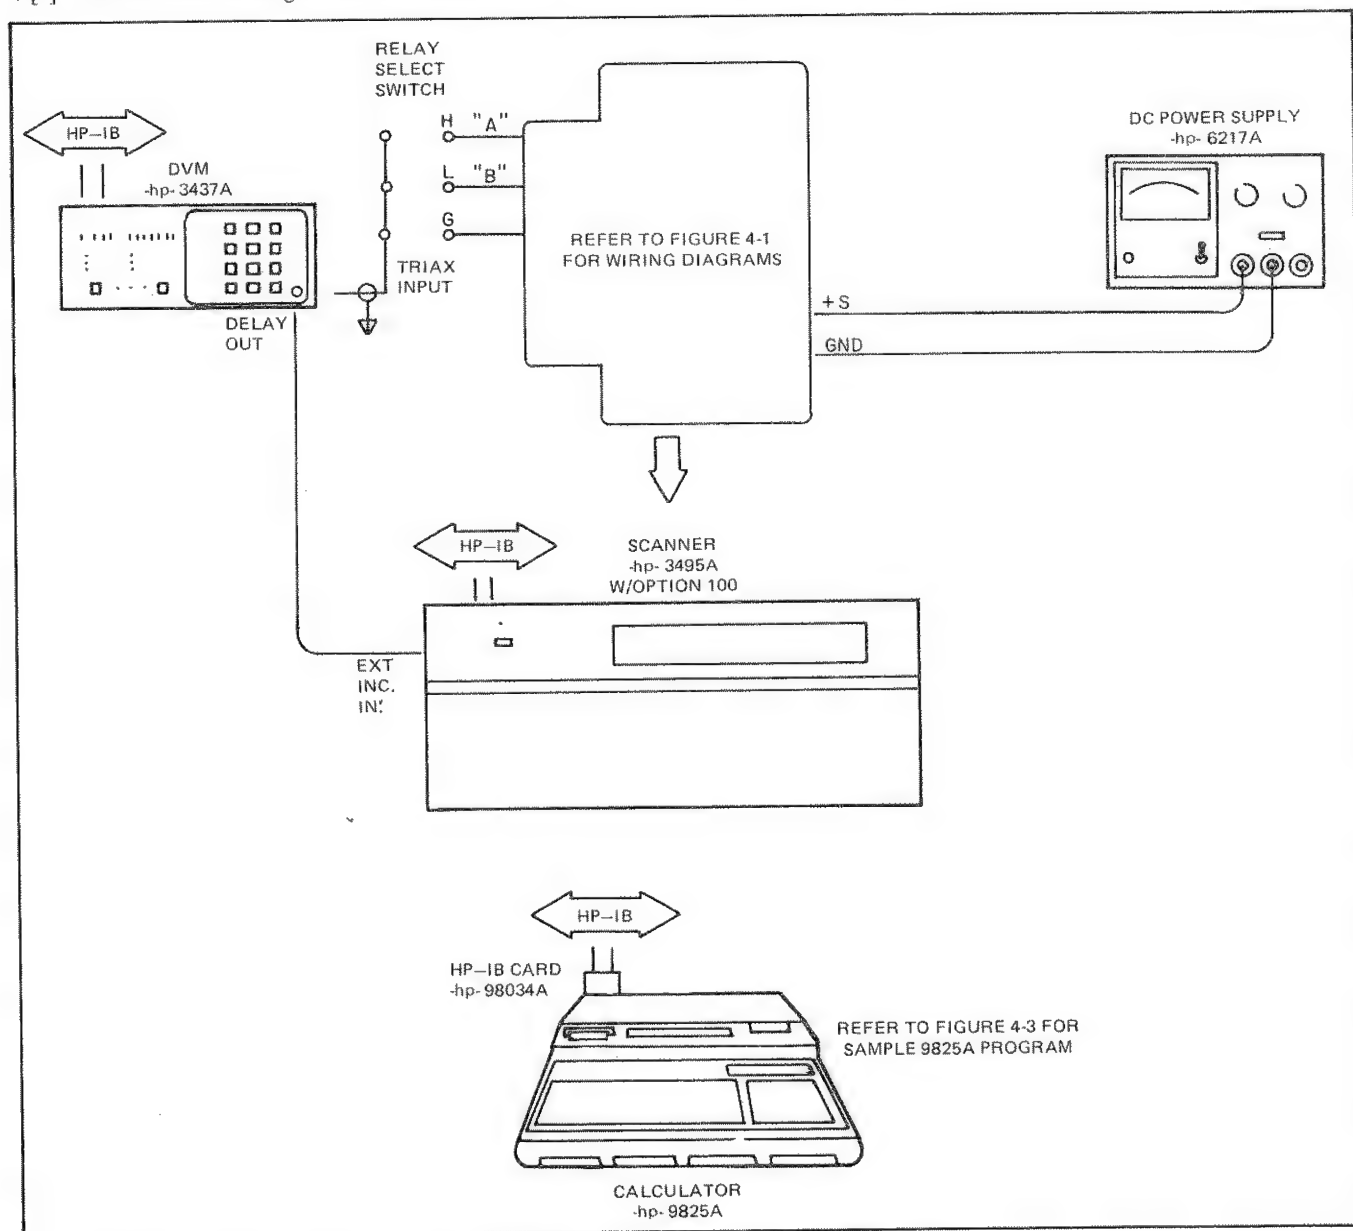

Figure 4-2. Switching Time Test Setup.
- a. Connect the test setup as shown in Figure 4-2.